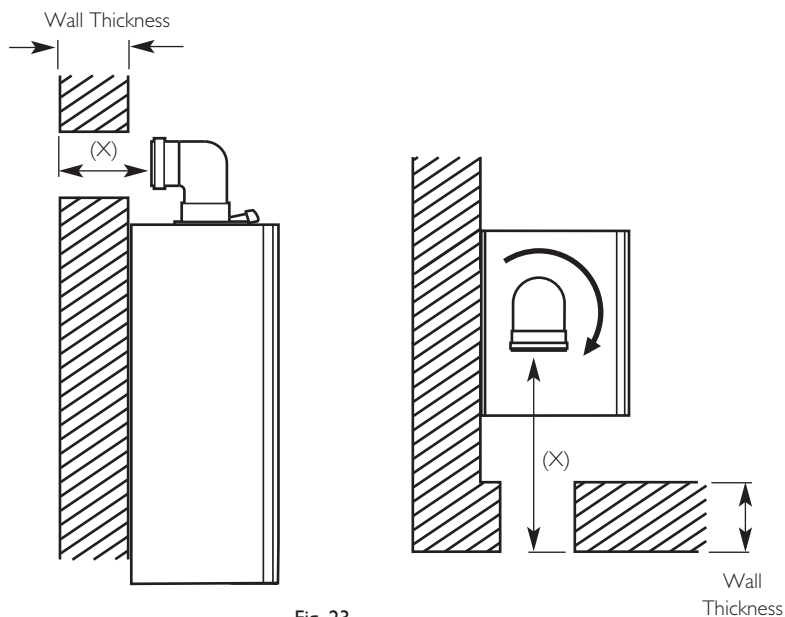

Fig. 23
3. Locate the flue elbow on the adaptor at the top of the boiler. Set the elbow to the required orientation (Fig. 23).
4. Measure the distance from the outside wall face to the elbow. This dimension will be known as 'X' (Fig. 23).
5. If the distance from the flue elbow to the outside face of the wall ('X' in Fig. 23) is less than 250mm the Connection Assembly can be discarded and the Terminal Assembly fitted directly into the elbow.
6. In instances where the dimension 'X' (Fig. 23) is between 250mm and 315mm it will be necessary to shorten the Terminal Assembly by careful cutting to accommodate walls of these thicknesses.